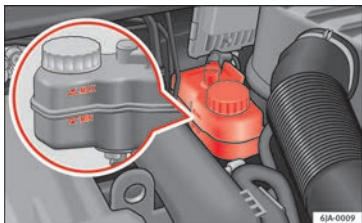

Fig. 113 Engine compartment: brake fluid reservoir.
- Check the brake fluid level in the reservoir »» **Fig. 113**. It should be between the “MIN” and “MAX” marks.